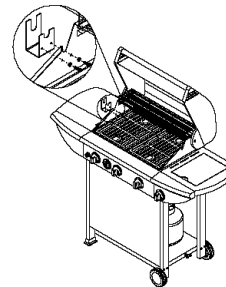

Figure 17
Attach rotisserie motor bracket on firebox left side panel using (2) 1/4 x 1/2" Phillip head screws with (2) 1/4" lock washers. (Fig.17)